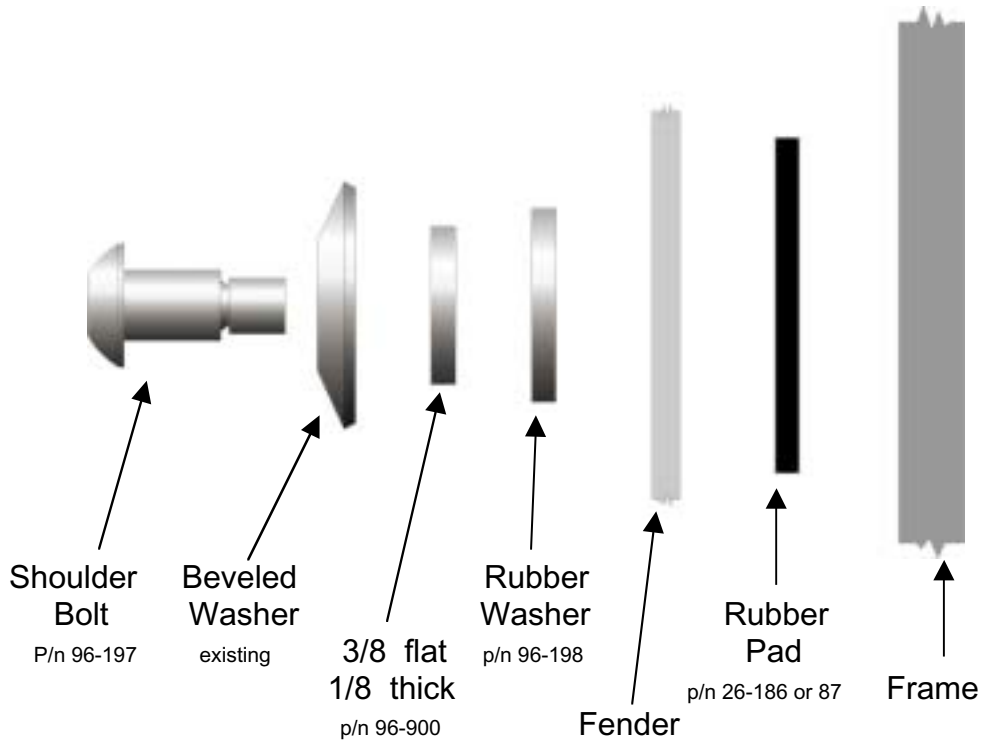
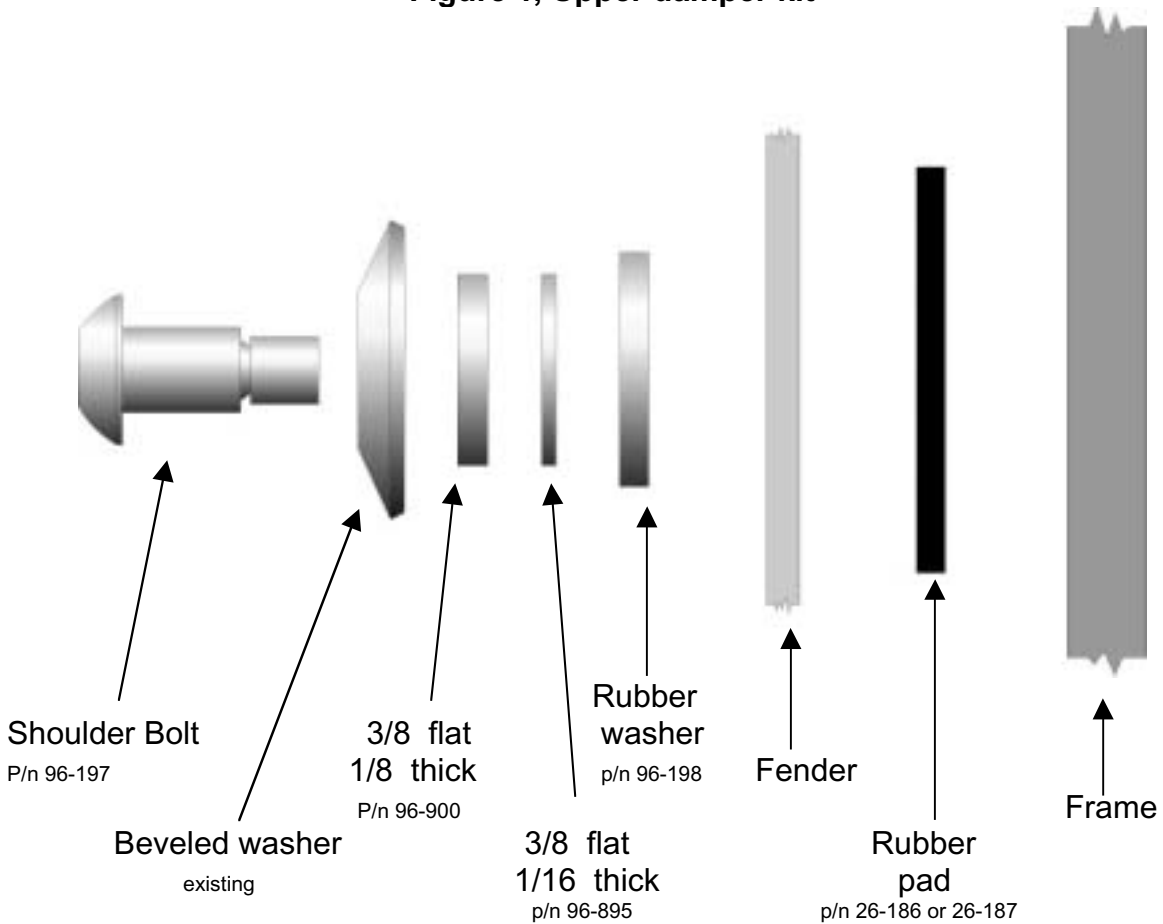

Figure 1, Upper damper kit
Figure 2, Lower damper kit
5. If lock patch does not exist on supplied hardware, apply blue thread locking compound to shoulder bolts (96-197, qty 4). Install upper shoulder bolt and washers per figure 1. Torque to 13-17 foot pounds. Install lower shoulder bolt and washers per figure 2. Torque to 13-17 foot pounds. Torque top two fender strut fasteners to 60 foot pounds.